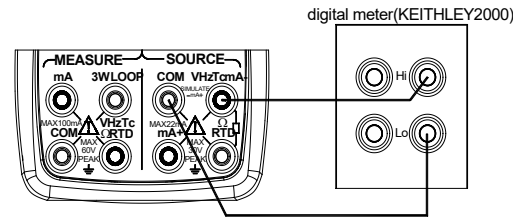

Figure 19 Adjusting voltage source
**Step 1:** Using the function selector switch SOURCE (FUNC) , select DC voltage function. Connect the lead cables for measurement to the standard digital meter as shown in Figure 19.